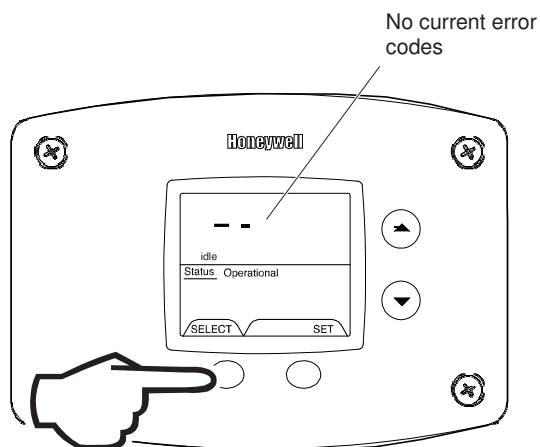

Fig. 38
8. Error Code History (Displays if there are present error codes or up to 10 previous error codes). Water Heater Display will show -- if there are no error codes (Fig. 38).